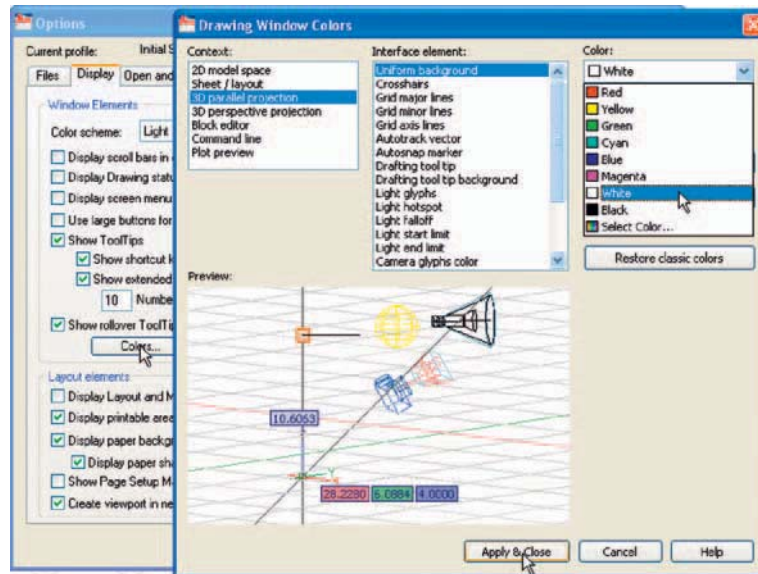

Fig. 15.3 In the **Options** dialog set all background colours to **white**
5. Click the **Colors** button. The **Drawing Window Colors** dialog appears. Set **Uniform Background** colour to **white** (Fig. 15.3).